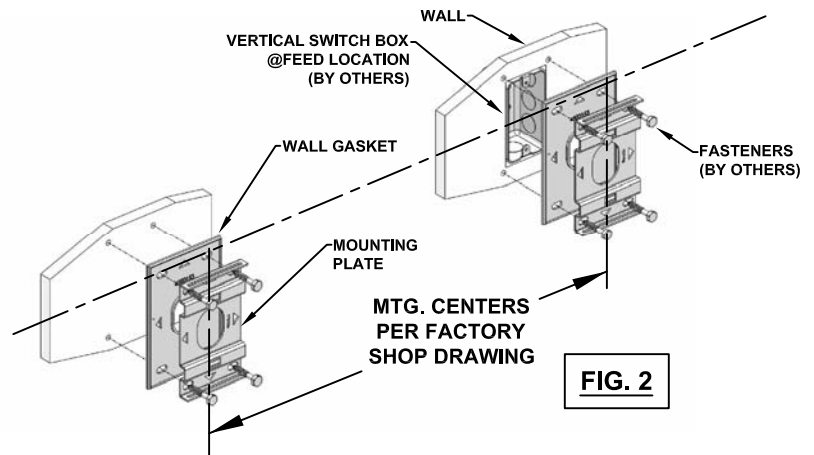

FIG. 2
USING MOUNTING PLATE AS A TEMPLATE, (FIG. 1) CENTER OVER VERTICALLY MOUNTED SWITCH BOX AND MARK (4) MOUNTING HOLES. USE LEVEL TO PLUMB MOUNTING PLATE. (FIG. 2) DRILL HOLES APPROPRIATE FOR MOUNTING SURFACE AND FASTENERS (BY OTHERS) TO BE USED. SECURELY ATTACH MOUNTING PLATE AND WALL GASKET TO WALL AS ILLUSTRATED
ATTACH SECOND MOUNTING PLATE AND WALL GASKET TO MOUNTING SURFACE AT LOCATION AS SPECIFIED ON FACTORY SHOP DRAWING. TAKE CARE THAT MOUNTING PLATES ARE ALIGNED AND PERPENDICULAR TO MOUNTED FIXTURE POSITION.(FIG. 2)